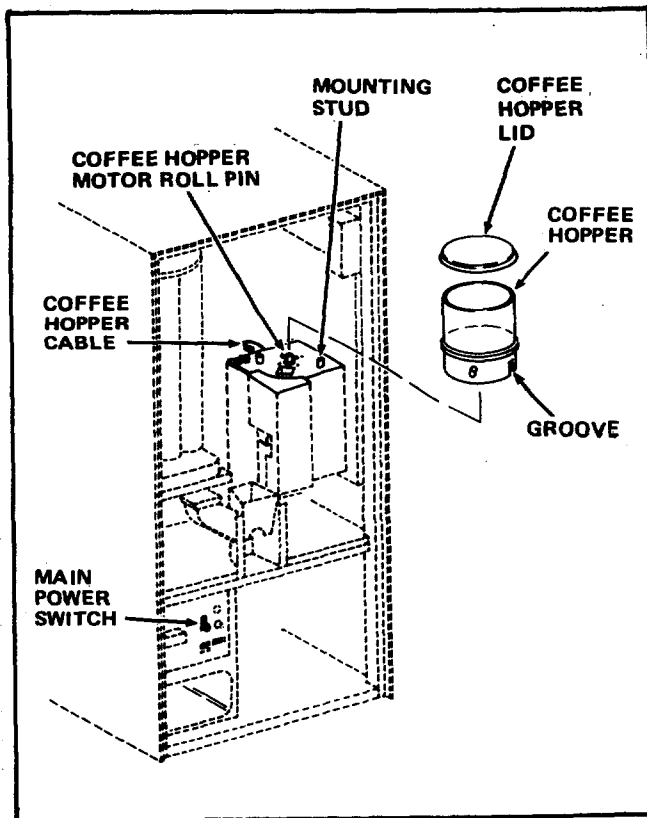

FIGURE 1
3. Place the Main Power Switch in the Merchandiser in the "OFF" position. See Figure 1.
4. Disconnect the Coffee Hopper Cable from the Coffee Hopper. See Figure 1.
19. Install the Coffee Hopper in the Merchandiser by mounting the Coffee Hopper on the Coffee Hopper Motor Roll Pin making sure the Mounting Studs in the Merchandiser fit in the Grooves in the Coffee Hopper. See Figure 1.
21. Install the Coffee Hopper Lid, Part Number 613-0103, included in the Kit, on the Coffee Hopper. See Figure 1.
22. Connect the Coffee Hopper Cable to the Coffee Hopper. See Figure 1.